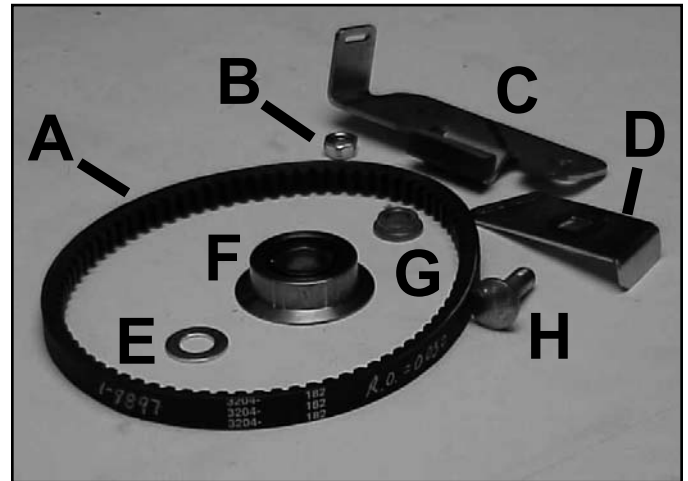

Fig 213
10. The components of the idler assembly are shown here (Fig. 213).